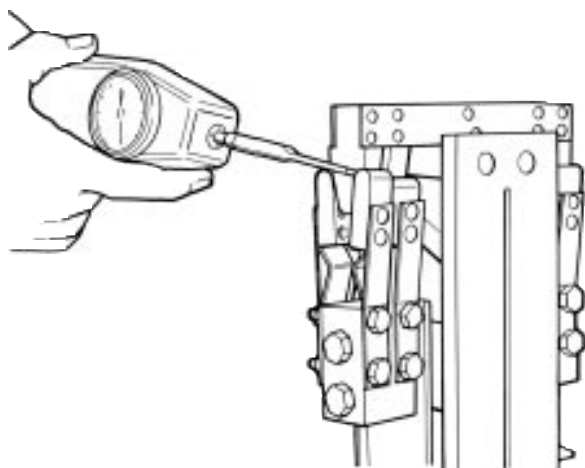

Figure 19.
A. Using a pressure gage as shown in Figure 19, check the contact pressure.
- (1) The correct amount of force to separate a stationary contact from its moving contact is 7.5 lb. \pm 0.5 lb.
- (2) Adjust the pressure toward the high side.